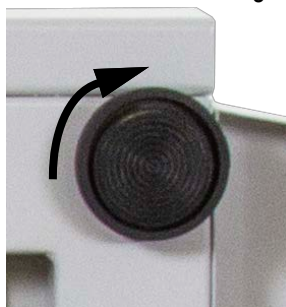

Figure 2-10. Secure Scale Platform Feet
3. Rotate the four round feet clockwise into the scale base until finger-tight as shown in Figure 2-10.